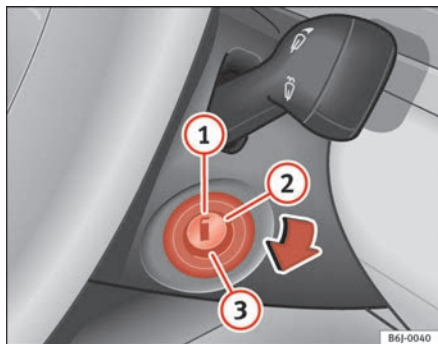

Fig. 94 Ignition key positions
In this position ⇒ fig. 94 the ignition and the engine are OFF and the steering may be locked.
- Turn the ignition key to position ⇒ page 131, fig. 94 ①. The indication lamp  will light for engine pre-heating.
- When the warning lamp turns off, turn the key to position ② to start the engine. Do not press the accelerator.
- Turn the ignition key to position ⇒ page 131, fig. 94 ①. ▶